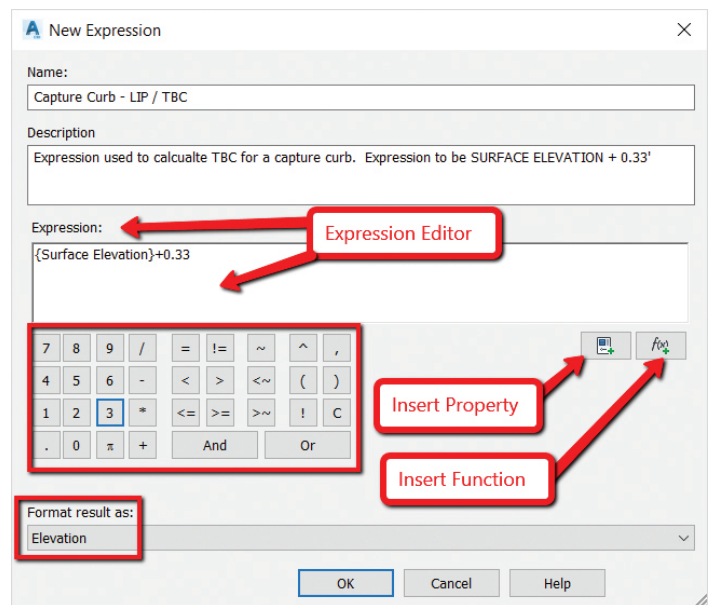

Figure 3
5. At the bottom of the New expression dialog box (Figure 3), change the Format result as to ELEVATION.